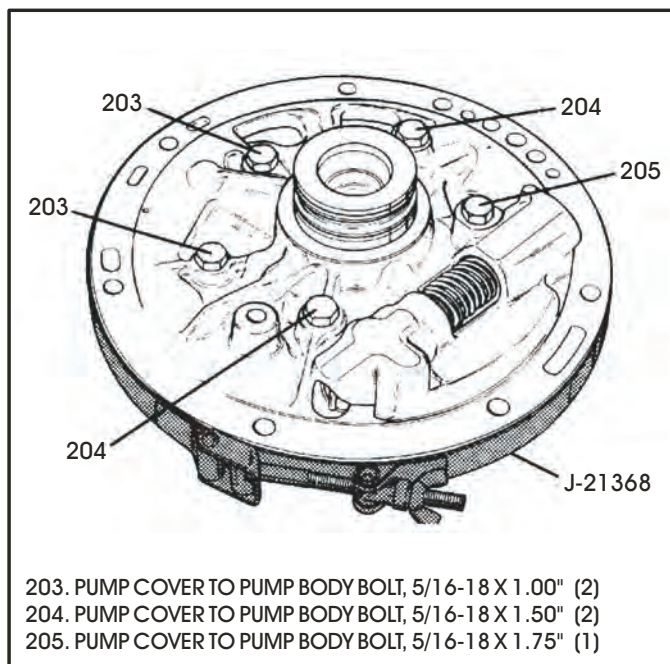

Figure 98
21. With the pump cover to pump body bolts loose, install the pump alignment strap J-21368 onto the pump assembly, and tighten the wing nut, as shown in Figure 98.
22. Torque pump cover to pump body bolts down to 24 Nm (18 ft.lb.) using a crossing pattern from side to side (See Figure 98).